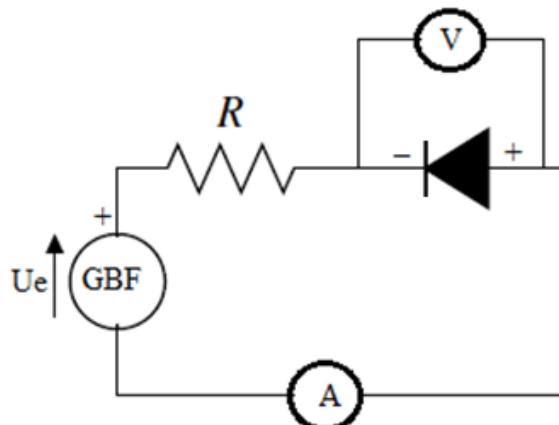

Figure 8: Electrical circuit of a reverse-biased diode.
- Set up the electrical circuit as shown in Figure 8, this time placing the Si-1N4007 diode first, followed by the Ge-AA118 diode, both in reverse bias.